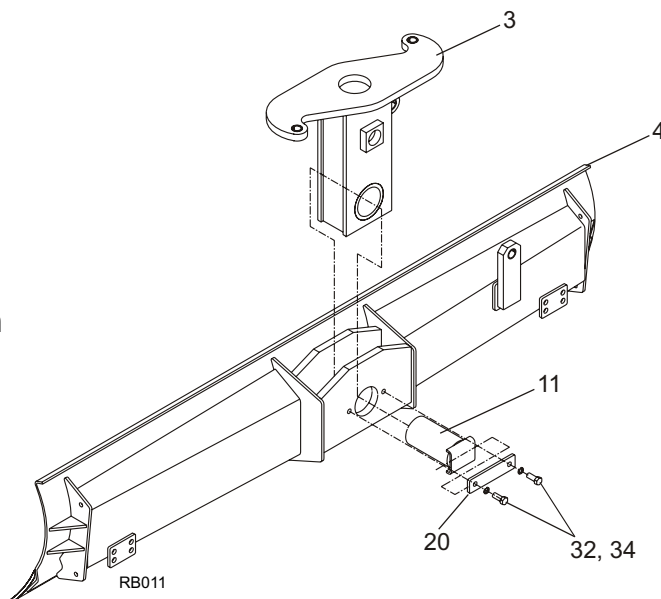

Figure 8. Turn Table Installed to Moldboard
A. (Refer to Figure 8). Attach the turn table (3) to the moldboard (4) by inserting the moldboard pivot pin (11). Move the pivot pin retainer (20) through the moldboard pivot pin (11) end. Secure with two bolts (32) and lock washers (34).